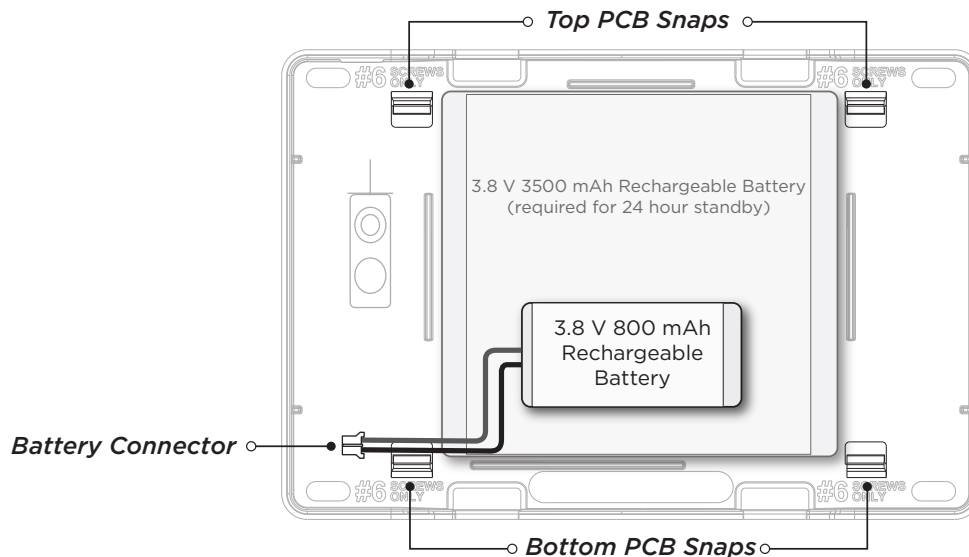

Figure 3: Standby Battery Replacement
The XTLplus Series 800 mAh rechargeable battery is used to provide 4 hours of standby battery power when DC power is not available. The battery is intended for backup power only and not to operate the panel on a daily basis. If the battery is low, or not plugged into the BAT battery connector, a low battery condition is indicated by the panel. If 24-hour standby battery power is needed, connect the 3500 mAh battery. See Figure 3.
5. Place the new battery into the XTLplus Series housing base with the battery wires directed toward the bottom left side. See Figure 3.